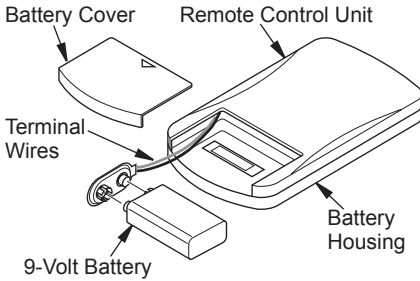

Figure 20 - Installing Battery in Hand-Held Remote Control Unit
1. Remove battery cover on back of remote control unit (see Figure 20, page 17).